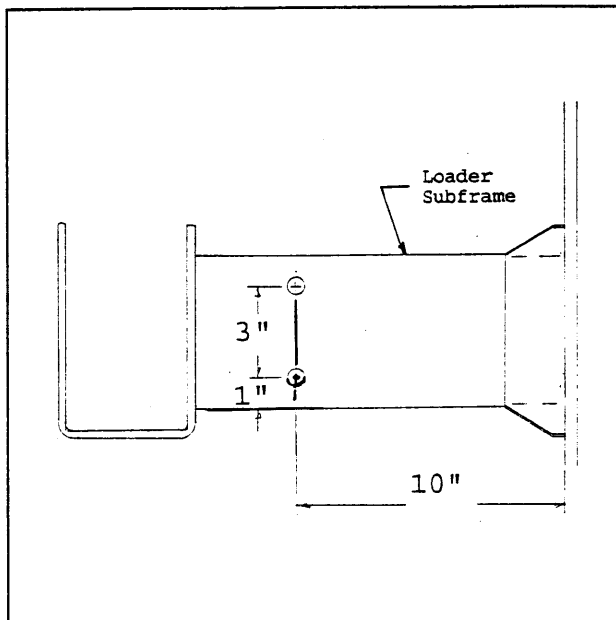

Figure 8
18. Locate the left wing of the loader subframe. Drill two 9/16"dia. holes as indicated in Figure 8.